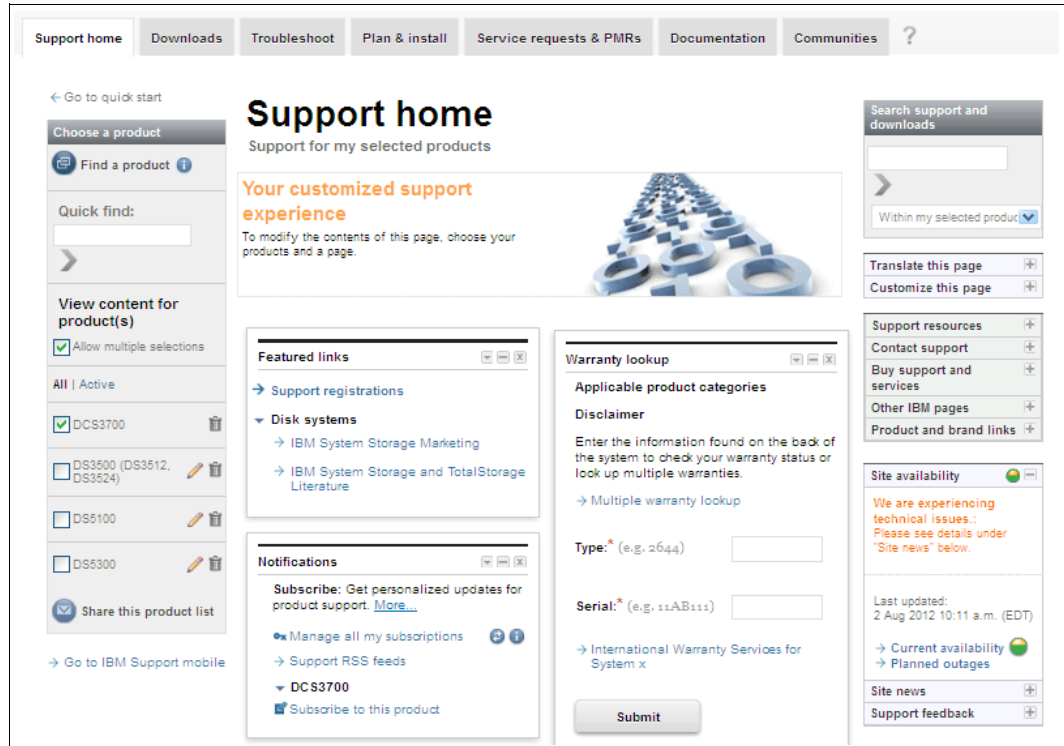

Figure A-17 IBM Support site - overview
1. From the main support portal window, which is shown in Figure A-17, click **Notifications**.